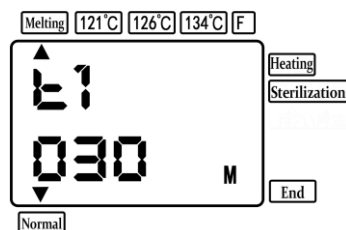

Fig. 14
④ Melting time setting: You can refer to the operation steps in section ② (Set sterilization time) (Fig.14). After setting, press the "Setting" key to save the modification.